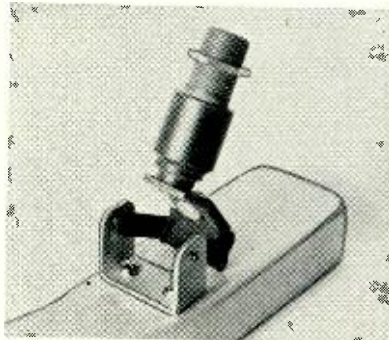
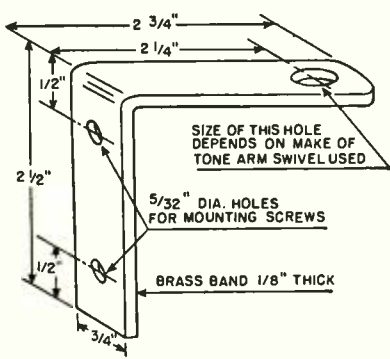

Fig. 3. A U-bracket is used to mount the swivel to underside of tone arm. The swivel is from an old Astatic crystal pickup.
Fig. 11. How to make the angle bracket which is used to hold the swivel unit to the back end of the record player cabinet.
Fig. 3. Three color codes for identifying capacitor values. (A) is the JAN and 1948 RMA mica capacitor code, (B) is the now obsolete 6-dot RMA code, and (C) is the RMA 3-dot code, also now obsolete.
In Fig. 2 is shown a mica capacitor. Mica capacitors have been in use practically since the beginning of the electronics industry. They are constructed of thin sheets of mica interleaved with two sets of aluminum, tin, or silver foil. Each set of foil goes to one side terminal and its pigtail wire. The entire assembly is molded into a Bakelite insulator and color coded as to its value. Unfortunately, the color coding of mica capacitors has long been a source of bafflement. This is due to the fact that there are at least three widely-used color codes and it often requires considerable thought to figure out which one is being used on any one unit. Shown in Fig. 3 are the various ways in which a mica capacitor can be marked. It should be pointed out that the color values are the same as in the resistor and other color codes.
tone arm while Fig. 3 shows how the U-bracket mounts to the underside of the tone arm by means of two short round-head wood screws. The exact location for the U-bracket will have to be determined later to give lowest tracking-error. Fig. 11 is a diagram of the angle-bracket made from ¾" by ½" brass band which is used to hold the swivel and tone arm to the back end of the cabinet. If desired, you can dispense with this bracket by making your cabinet 15½" long instead of 12" long, and by mounting the swivel directly on top of the cabinet. The writer likes compact cabinets!